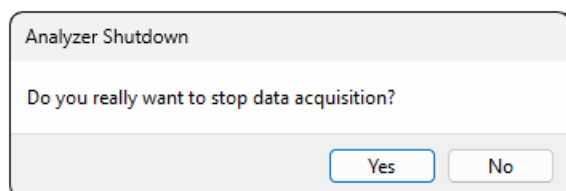

Figure 10 - Shutdown Confirmation Pop-Up Dialog
2. A Shutdown Confirmation dialog box appears (see Figure 10), prompting the user to confirm the shutdown. Click **Yes** to proceed. Once confirmed, the analyzer software will begin the shutdown sequence, followed by the analyzer hardware. For older instruments that display three shutdown options, select **For Shipment**.